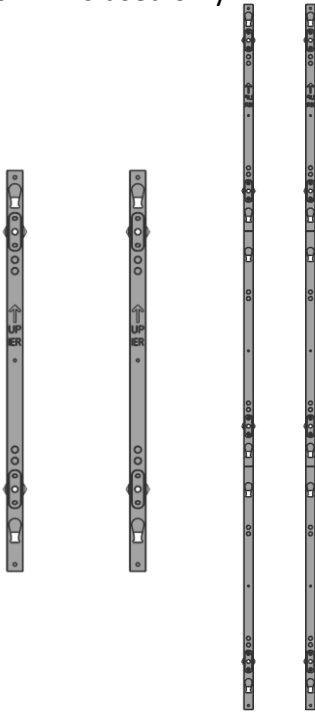

Fig 4. FRAME F (LV1, LV3)
- There are two types of Frame Kits (LV1 & LV3) for installation of IER-F Landscape (Fig 4).